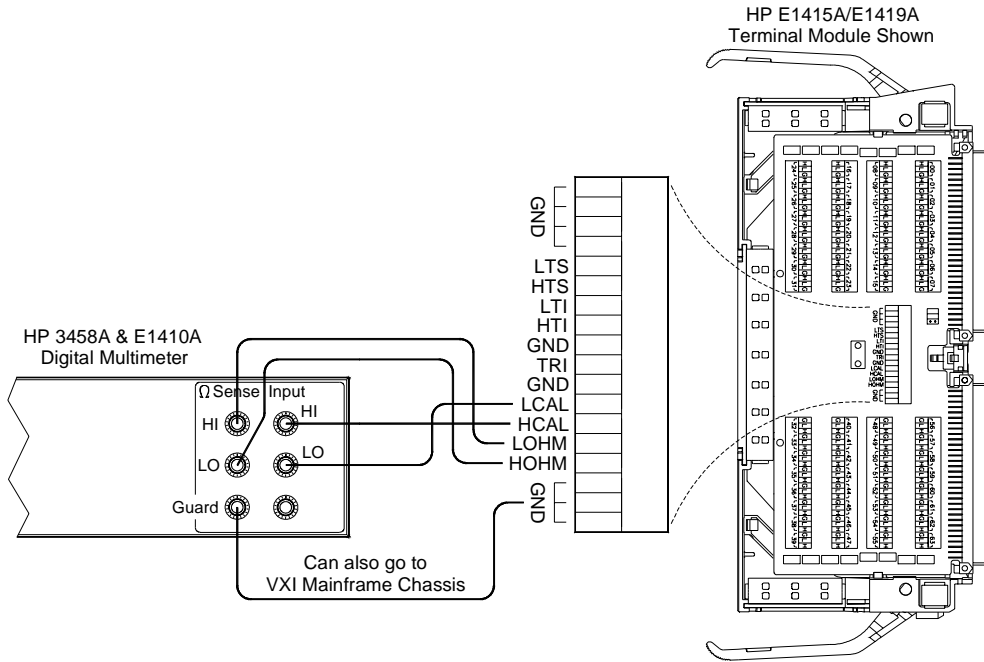

Figure 3-3. Terminal Module Connections
- Connect the equipment as shown in Figures 3-3 through 3-6, using the connections on the terminal module or the Cal Bus connections on the HP E1415A or E1419A front panel.
[a] Make 4-wire resistance connections (see Figures 3-3 through 3-8)
[a] Make DCV connections (see Figures 3-3 through 3-8)